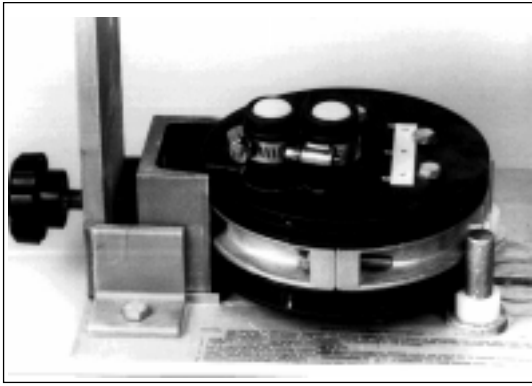

FIGURE 9 - 6.5" END PLATE SHOWING THE DESIGNATED DRILL MARKS
5.01 Locate the designated drill marks on the End Plate (A,B,C - 6.5" and 8") (A thru H - 9.5"). These marks should face up when placing End Plate in Power End Plate Cutter. (Figure 9 shows 6.5" End Plate)